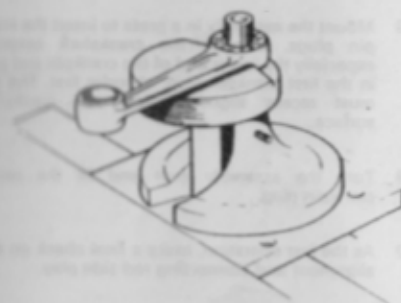

Fig. 18 Crankcheek and crankpin showing connecting rod and thrust washers in position.
Prior to dismantling, the crankcheeks should be marked across both rims (the marks can be seen in Fig. 18) to aid alignment during reassembly. The markings should be made with a steel rule and scribe. Proceed as follows:
- 3 Place one thrust washer in position over the crankpin (see Fig. 18).